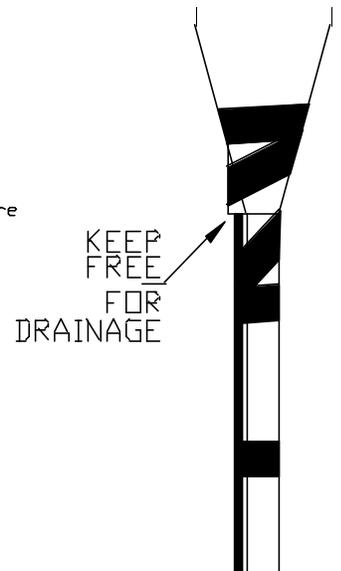

Figure 5
- Secure the bottom of the rubber boot with electrical tape, leaving a hole for drainage of moisture (Figure 5). Don't tape the top of the boot to the sensor because if the tape unravels, it can interfere with the sensor's rotation.